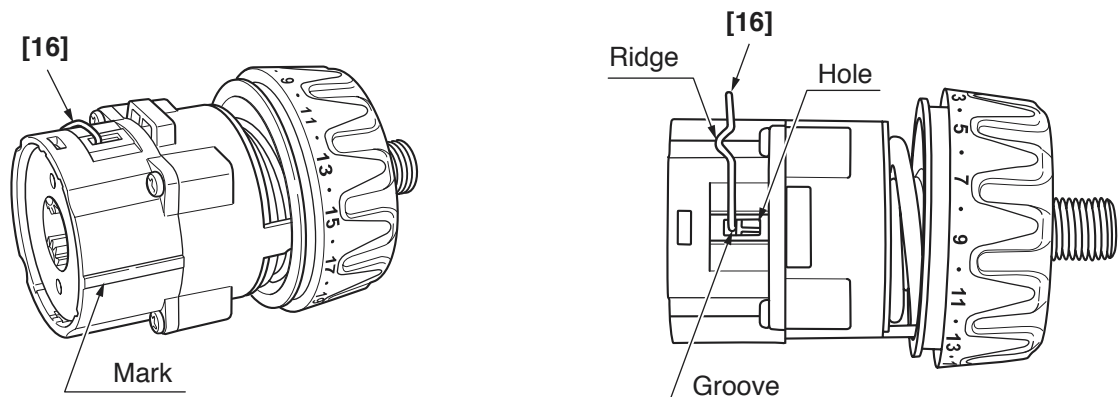

Fig. 11
- (ii) Install the Front Case [9] and the Rear Case [14] together with the mark on the Front Case [9] aligned with the mark on the Rear Case [14]. (See Fig. 11.)
With the ridge at the Shift Arm [16] facing the Motor [25] side, first install them on the unmarked side of the assembly reassembled in step (b). Then insert the projections on the Shift Arm [16] into the holes in the Rear Case [14] and make sure that the projections are fitted into the grooves in the Slide Ring Gear [17] mounted within the Rear Case [14]. (See Fig. 11.)